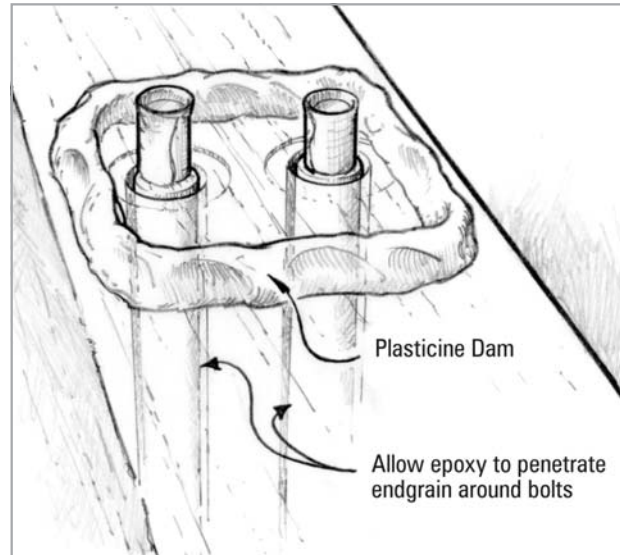

Figure 4-14 Build an epoxy reservoir around each keel bolt.
4. After blowing out the dust and shavings, wrap duct tape around the bolt threads and construct a $\frac{1}{4}$ " high dam around the bolt hole with plasticine (modeling clay) (Figure 4-14).